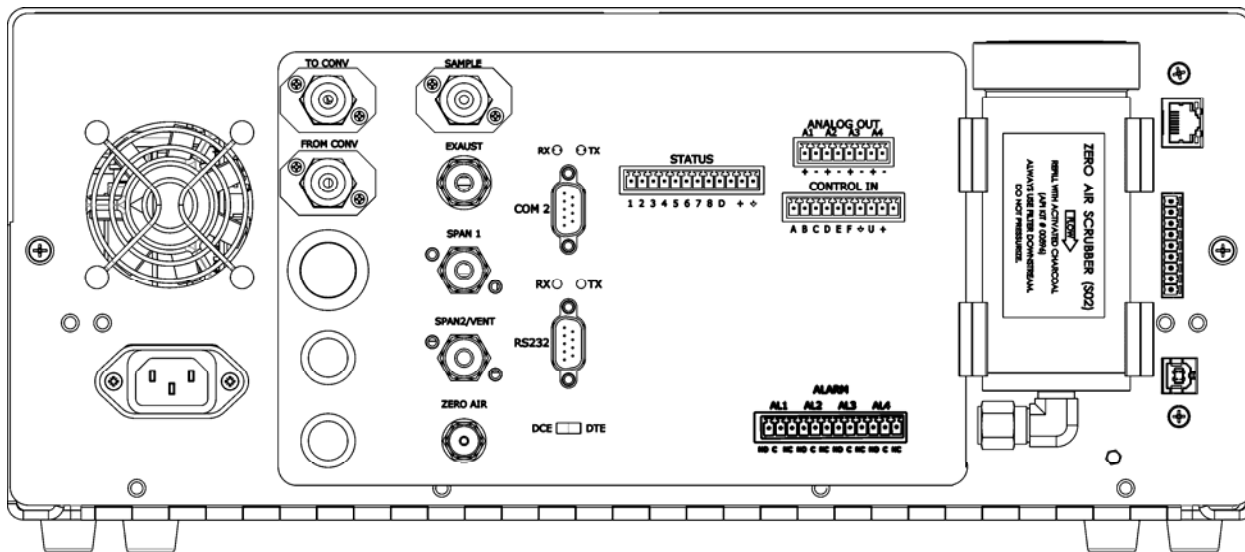
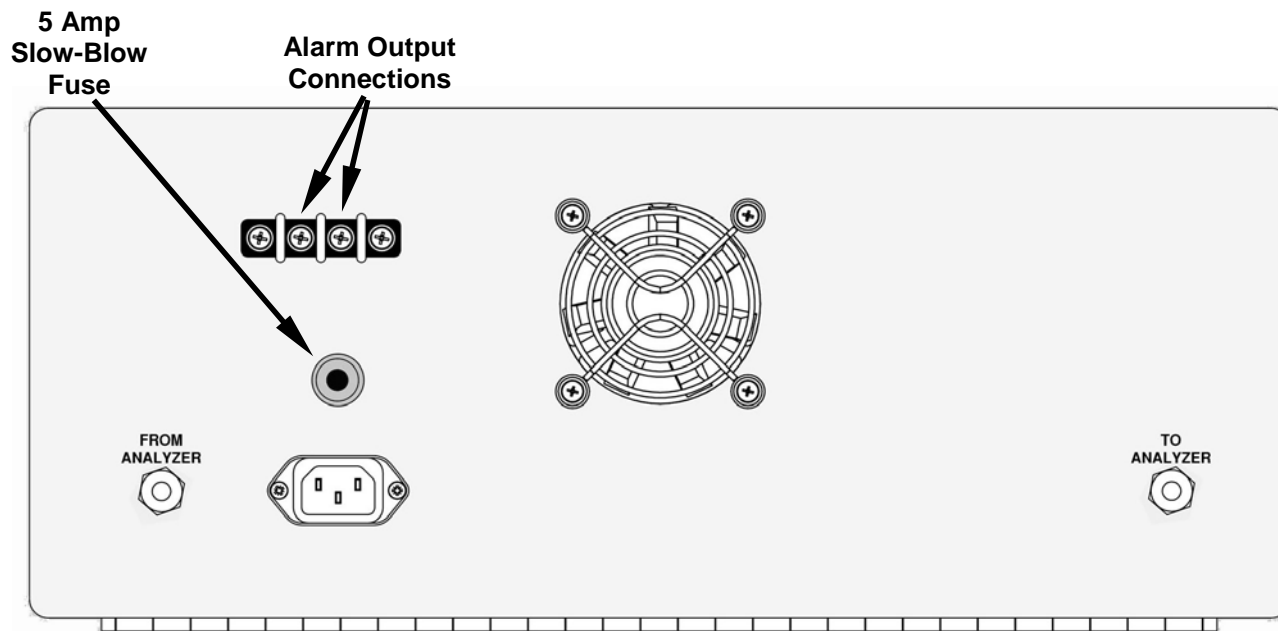

Figure 3-4. T102 Rear Panel (with Zero Air Scrubber attached)
Figure 3-5. M501-TRS Rear Panel Layout
Figure 3-4 and Figure 3-5 supersede *Rear Panel Layout* in the T101 Manual - PN 07266.
Please refer to Figure 3-4 and Figure 3-5 for the location of pneumatic connections at the rear panel of the T102 and the M501-TRS instruments.
3. Attach zero air and span gas supply lines as appropriate (see Figure 3-4 and Figure 3-5).